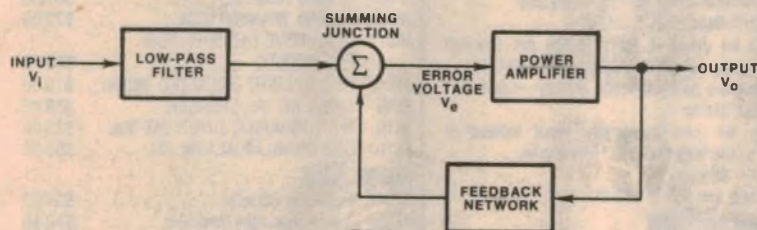

FIG. 1
Let us recap on how TIM is produced. Fig. 1 shows a typical feedback amplifier system. It consists of a low pass filter at the input placed there simply as recognition of the fact that any real life program material that is fed into the feedback amplifier is of limited bandwidth. The cut-off frequency of the input filter is at a frequency designated as $F(1)$. Following this input filter is the feedback power amplifier. It is represented by the power amplifier block in the forward path with a feedback network from the output to the input summing junction. The feedback amplifier has an open loop cut-off frequency at $F(0)$ and it is assumed that the rate of roll-off is first-order, ie, 6dB/octave. Assume also for the moment that the input filter is also first-order.
Finnish amplifier designer, Matti Ojala (1) has performed a detailed investigation of the error voltage, V_e , for various combinations of the ratio $F(1)$ to $F(0)$ and feedback factor for the system of Fig. 1. His conclusion was that increasing overall feedback made TIM worse. Furthermore, Ojala stated that, to obviate the production of TIM an amplifier should be designed for a wide open-loop bandwidth and overall feedback should virtually be kept to a minimum.